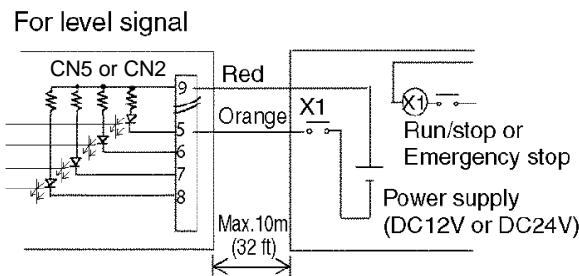

Figure 1. CN5 and CN2 Wiring Diagram for the Centralized Controllers AG-150, GB-50ADA, and GB-24
- External input/output with CN2 on Centralized Controller GB-24. Figure 1 displays the wiring diagram for both the CN5 and CN2.